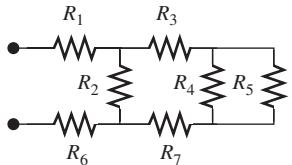

FIGURE P3.7 Circuit for Problem 3.7.
- 3.7 (A)** Find R_{eq} in Figure P3.7, given